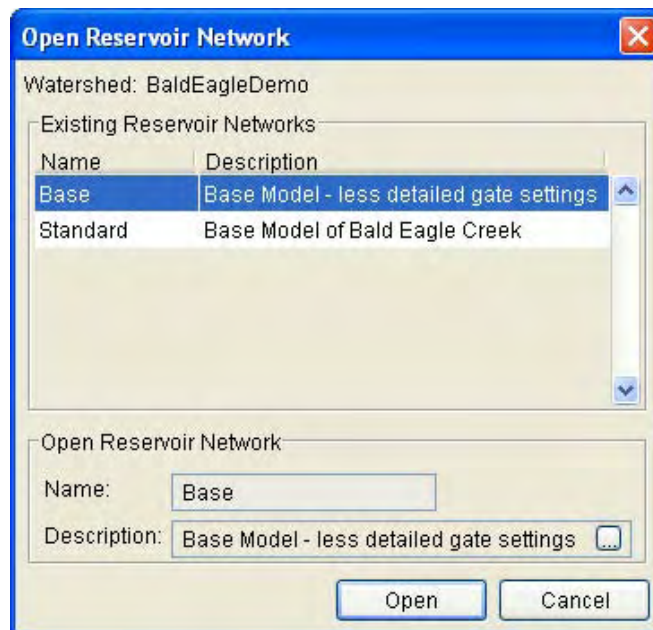

Figure 8.12 Open Reservoir Network
1. From the **Network** menu, select **Open**. The **Open Reservoir Network** dialog box will appear (Figure 8.12).